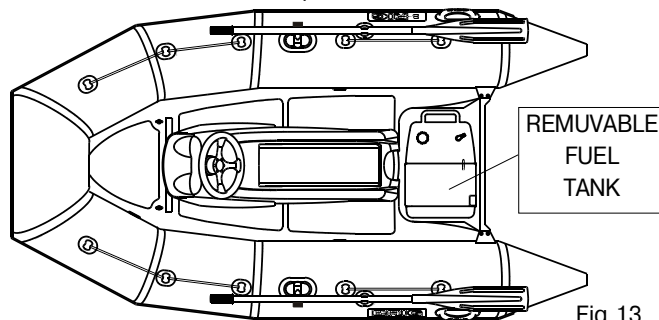

Fig.13
- for Sport version - on the rear part of the boat (see. Fig. 13) or inside the Sport console.